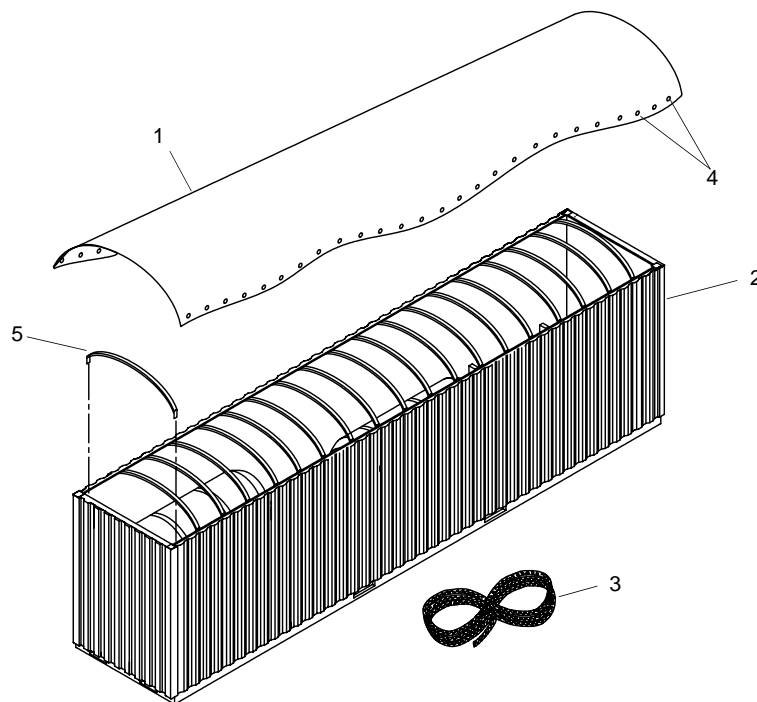

Figure 17. Opening the Fender Container
3. Remove cable (figure 17, item 3) attaching tarp (figure 17, item 1) to container (figure 17, item 2).
4. Remove tarp (figure 17, item 1) from bows (figure 17, item 5).
5. Remove ceiling bows (figure 17, item 5).
18. Install ceiling bows (figure 17, item 5) on container.
19. Install tarp (figure 17, item 1) on bows (figure 17, item 5).
20. Thread cable (figure 17, item 3) through grommet holes (figure 17, item 4) in tarp (figure 17, item 1) and attach to brackets on side of container (figure 17, item 2) to secure tarp (figure 17, item 1).